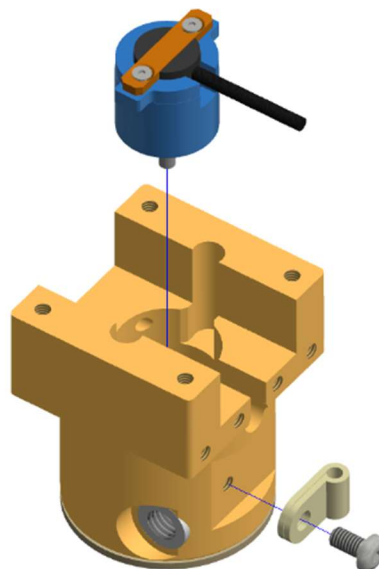

Figure 10-37. Assemble Ankle Z-Axis Potentiometer and strain relief to Ankle Adaptor
- 10.3.2 Slide the Z-Axis Potentiometer into the Ankle Adaptor (474-5820-1,2) and attach the strain relief to the Adaptor (474-5820-1,2) using a M4 X 0.7 X 8 LG. BHCS (Figure 10-37).